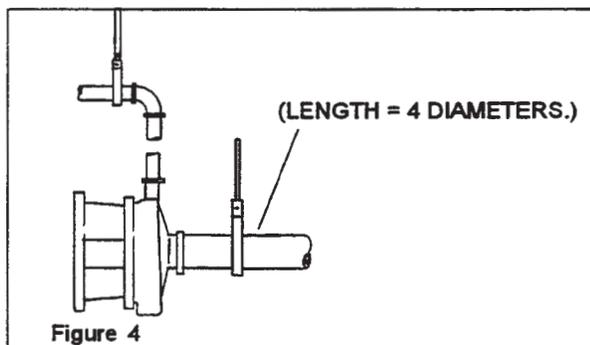

Figure 4
- Maintain a straight length of pipe at least 4 diameters long at the pump inlet. (Figure 4)